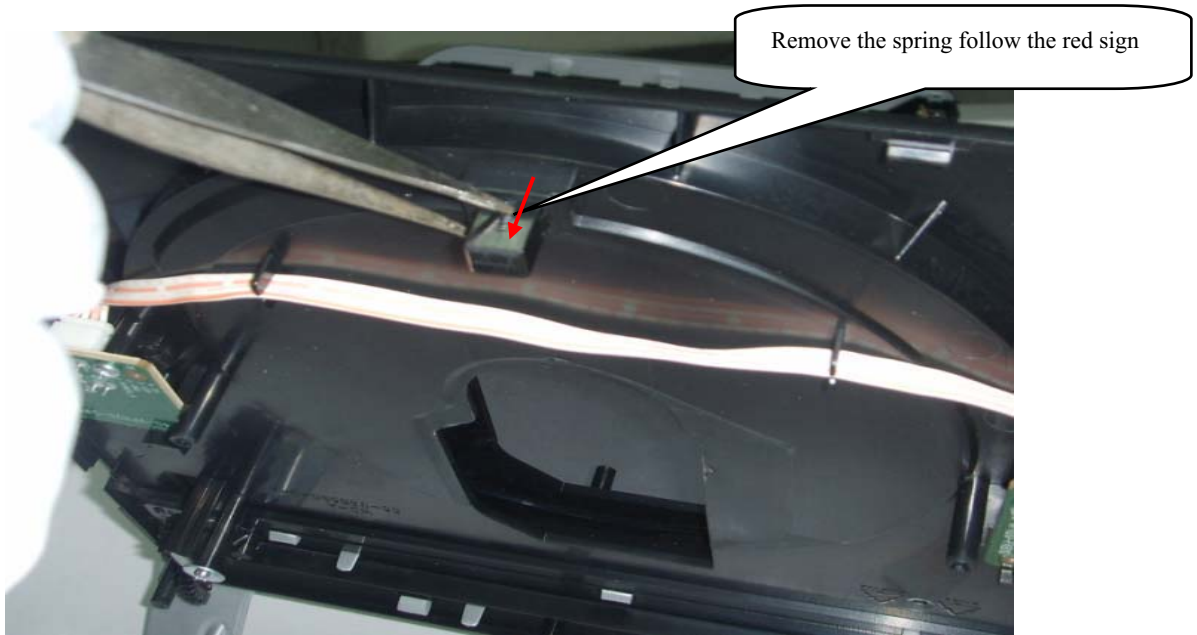

Figure 3
Step2: If the disc blocked in the loader and disc door can't open in normal way, you can make it through the instruction as below to take out the disc. (Figure 3 & 4)